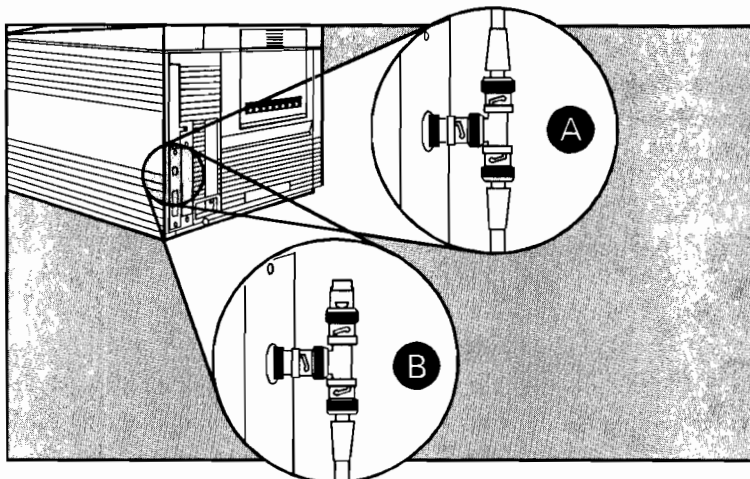

Figure 3-8. Connecting the Printer to the Network
2. Attach another ThinLAN cable section or a 50-Ohm terminator to the other side of the BNC "T" connector. If you are attaching the HP LaserJet IIISi printer in the middle of your network, you must use another ThinLAN cable section. See Ⓐ in Figure 3-8. If you are attaching the printer to the end of your network, you must use a 50-Ohm terminator. See Ⓑ in Figure 3-8.